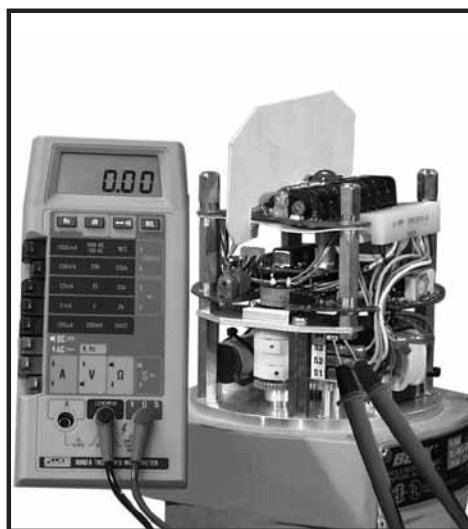

Figure 5
- b. For actuators with Option 3, remove the cable tie holding the switch wires, remove the two wires from the CCW limit switch (second from the top), and attach the meter across these contacts. See Figure 5 (for method only). Rotate the cam until the meter shows no continuity (switch contacts open, switch clicks).
- b. For actuators with Option 3, remove the cable tie holding the switch wires, remove the two wires from the CW limit switch (top switch), and attach the meter across these contacts. See Figure 5. Rotate the cam until the meter shows no continuity (switch contacts open, switch clicks).